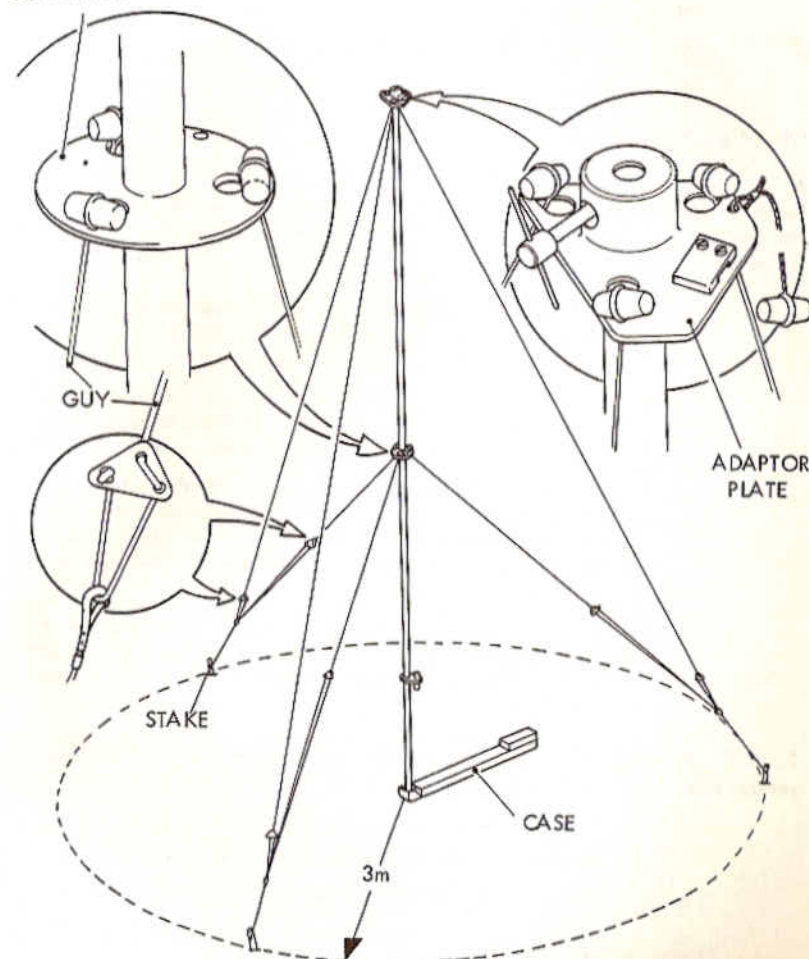

Fig 23 Erection of 5.4m Mast
- h. Stand the base of the mast on the reinforced lid of the case in the centre of the circle and attach the loop at the end of the upper and lower guy of each pair to a stake by means of its hook. Raise the mast/antenna assembly and tighten the guys. (Fig. 23 refers).